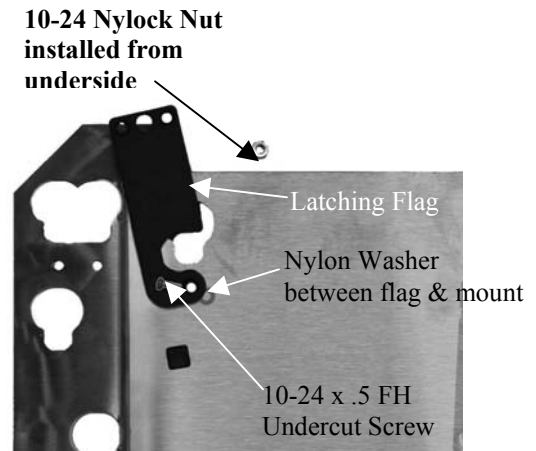

Figure 3
2. Secure latching flag to Plasma Static Mount using .250" OD x .03125" ID x .0312" Nylon Washer, 10-24 x .5 FH Undercut Screw, and 10-24 Nylock Nut (see Figure 3).